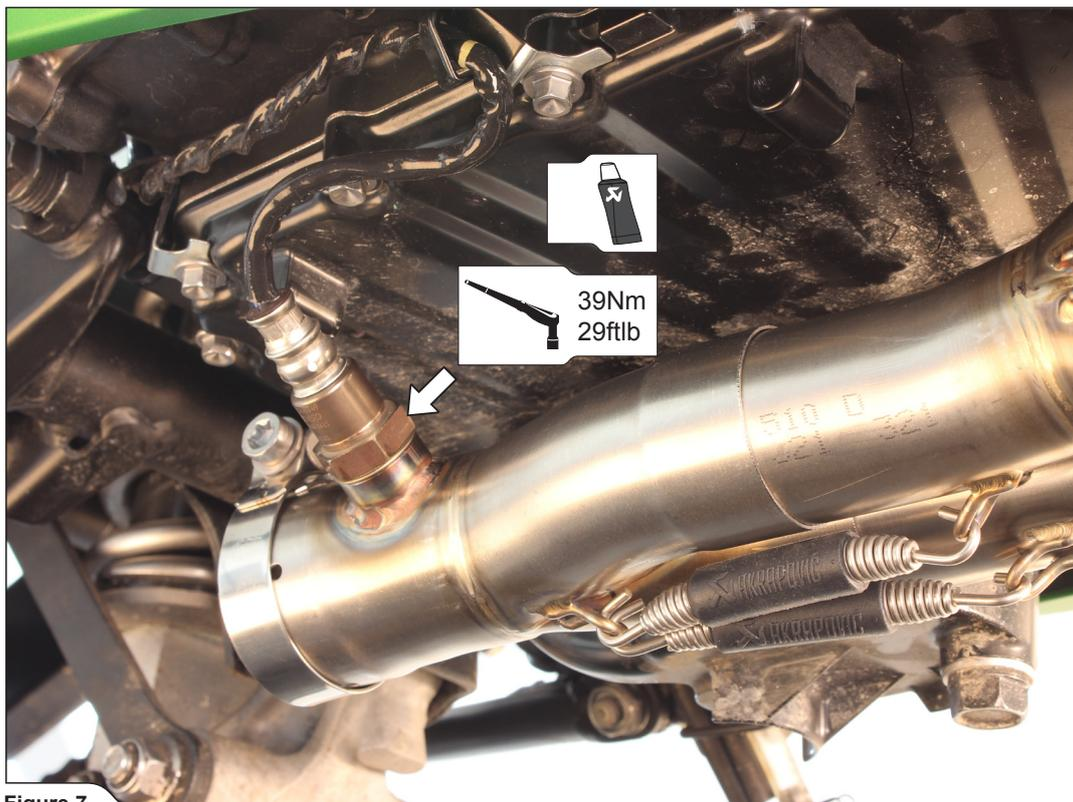

Figure 7
4. Slide the link pipe onto the collectors, attach the springs and install the lambda sensor (Figure 7).